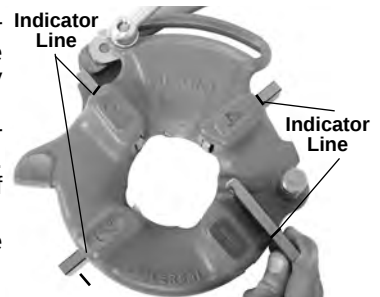

Figure 3 – Inserting Dies
4. Lift tongue of washer out of slot in size bar. Move washer to end of slot (Figure 3).
6. Insert appropriate dies into the die head, numbered edge up until the indicator line is flush with the edge of the die head (see Figure 3). Numbers on the dies must correspond with those on the die head slots. Always change dies as sets – do not mix dies from different sets.